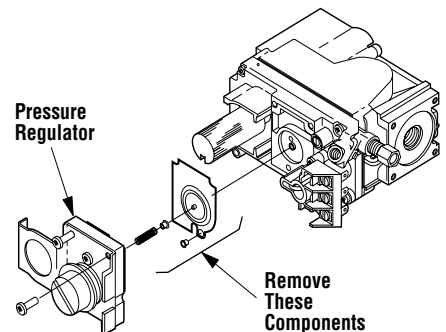

Figure 24
Step 4. Refer to **Figure 24** and the instructions provided with the kit. Using a Torx T20, remove and discard the three pressure regulator mounting screws. Remove the pressure regulator, spring, poppet, diaphragm and bushing. **Discard all removed components.**